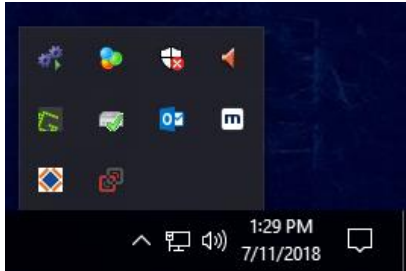
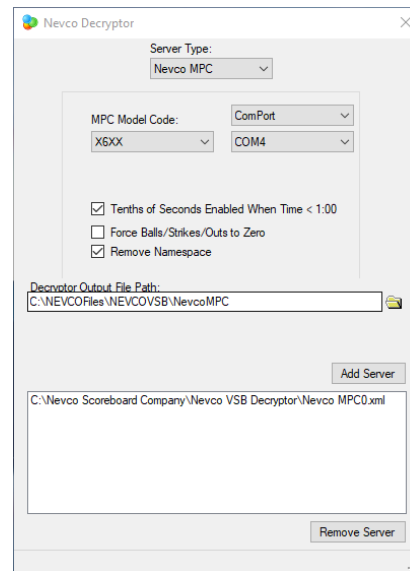

Figure 10-5
Figure 10-6
- i. The VSB Decryptor should be set up. There will be an icon on your desktop that shows three colored spheres (blue, green, and orange). Click on this and now there will be an icon in your status bar (lower right corner) with the same image, see Figure 10-5. Double click the spheres shown in your status bar. This will pull up a window, seen in Figure 10-6; In this window, ensure that the Server Type, Input File Path (FinishLynx), MPC Model Code (MPC), and COM Port (MPC) are all correct and match your system setup. Now, the Decryptor Output File Path must be correct. This output file path should be in the NEVCOFiles\NEVCOVSB and then the corresponding data type. Click “Add Server,” and now the gears should be in your status bar, as seen in Figure 10-5.